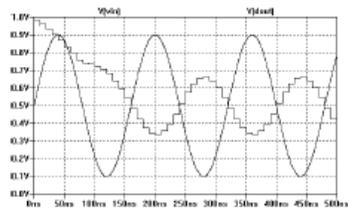

Figure 9.11 Simulating Fig. 9.10 with a 6.25 MHz input signal.
- The simulation example in Figure 9.11, seen at the left, was generated using ideal components with a VDD of 1 V.
- The figure seen at the left is the result of regenerating Fig. 9.11 with a 50 source resistance